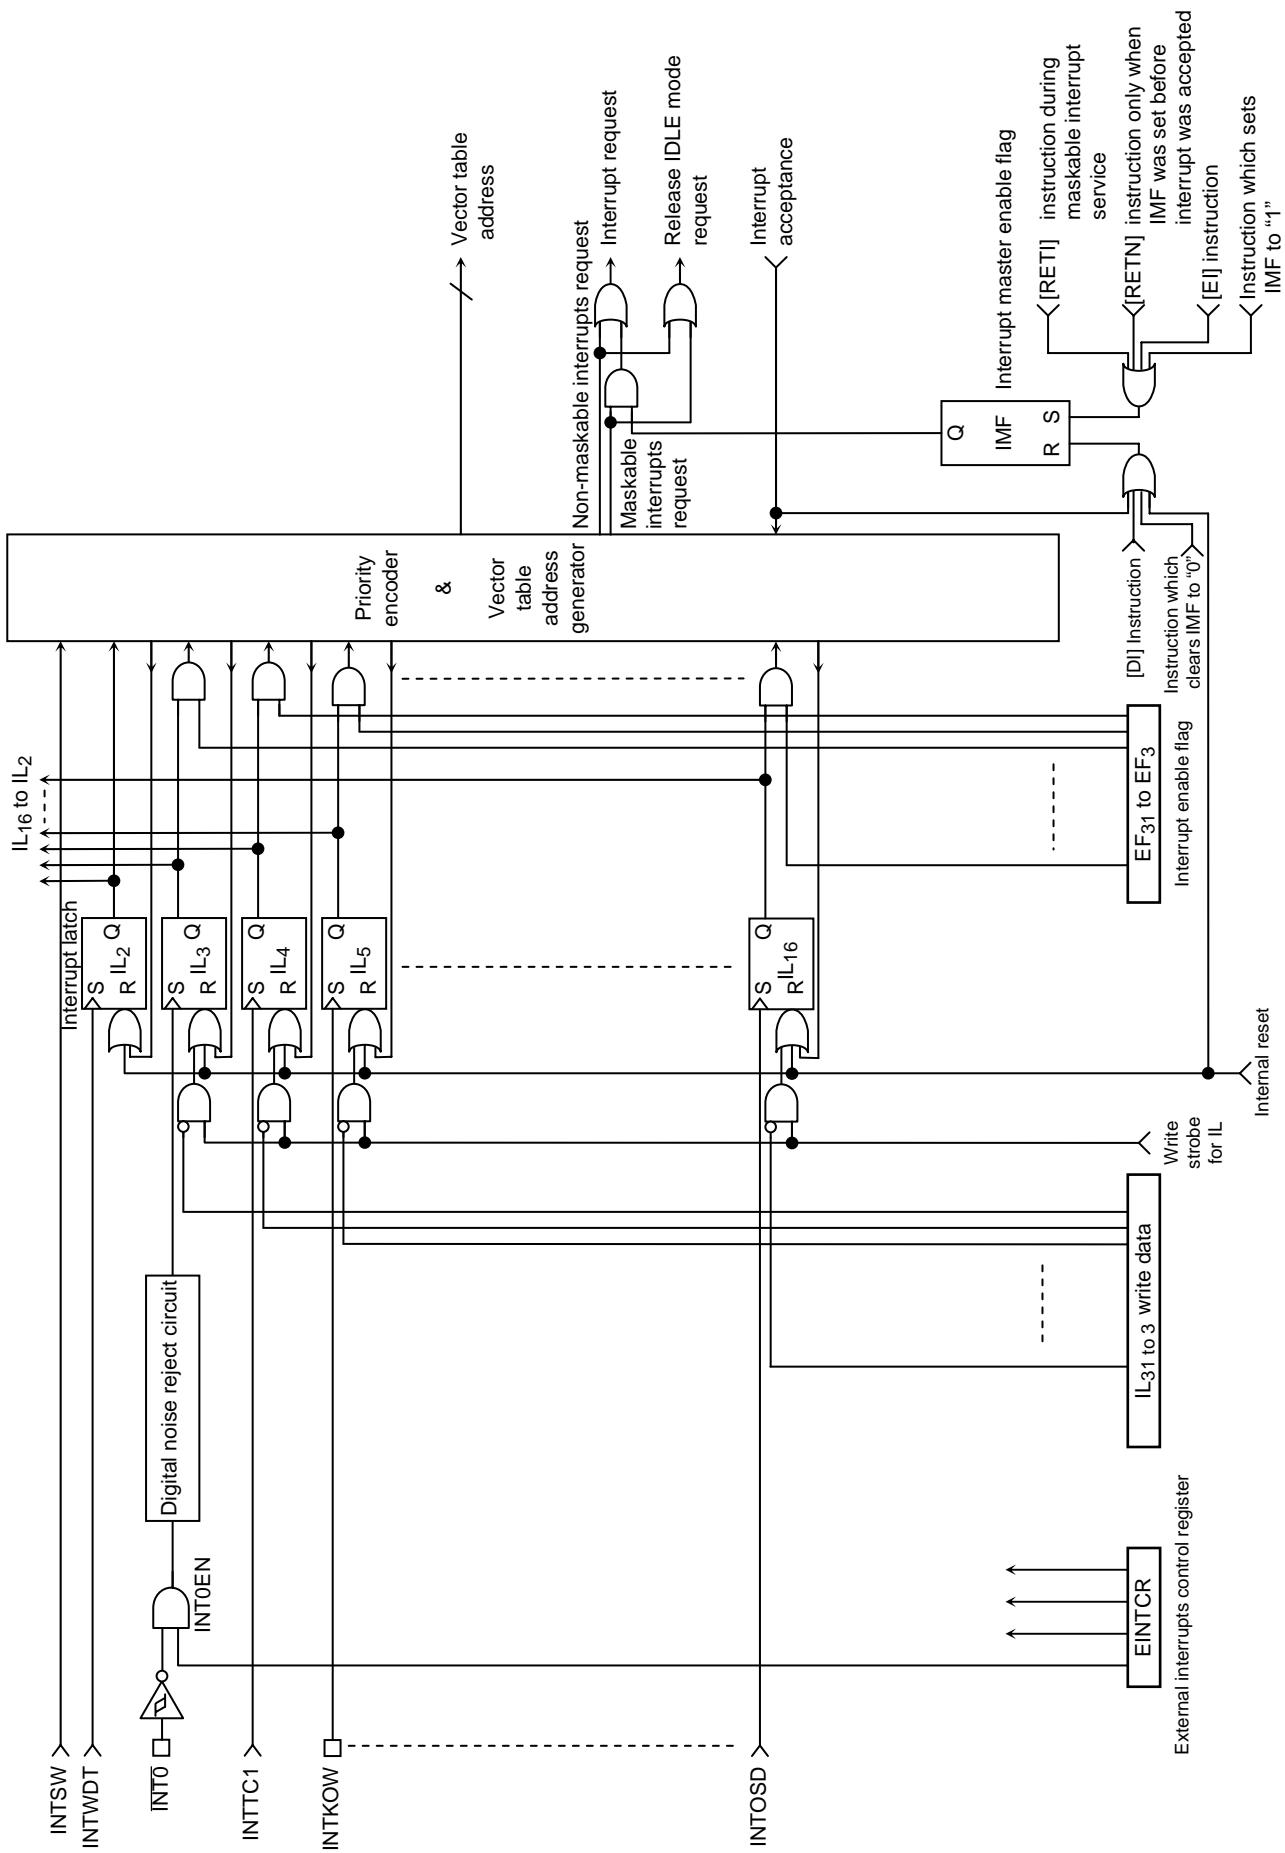

Figure 1.5.1 Interrupt Controller Block Diagram
The interrupt latch is set to “1” when an interrupt request is generated, and requests the CPU to accept the interrupt. The acceptance of maskable interrupts can be selectively enabled and disabled by program using the interrupt master enable flag (IMF) and the individual interrupt enable flags (EF). When two or more interrupts are generated simultaneously, the interrupt is accepted in the highest priority order as determined by the hardware. Figure 1.5.1 shows the interrupt controller.
(1) Interrupt Latches (IL31 to IL2)